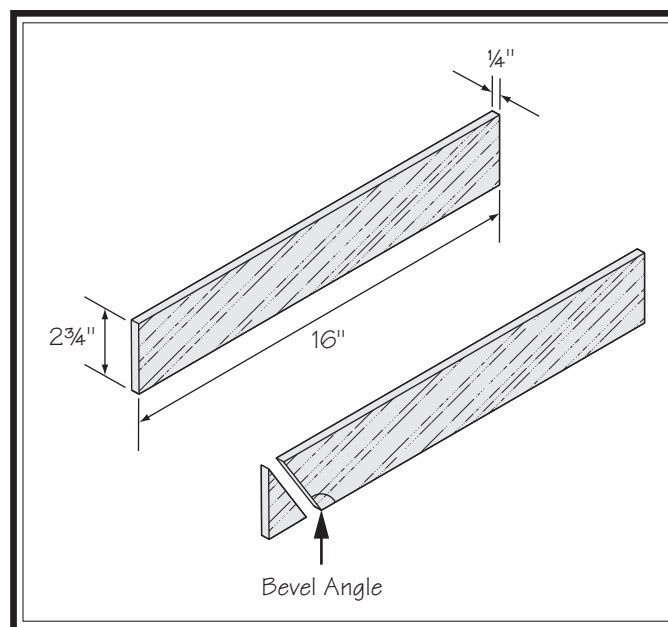

Figure 32. Auxiliary fence dimensions.
2. Cut piece of hardwood stock at least $\frac{1}{4}$ " thick to the same height as existing miter fence, and at least 16" long (see **Figure 32**).
3. Mark and cut desired bevel angle (same as platen tilt angle) on one edge of board (see **Figure 32**).